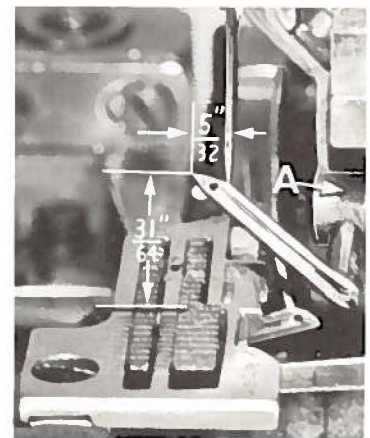

Fig. 10
Next, turn handwheel until looper is at the left end of its travel; check dimensions of upper looper point with respect to needle and throat plate (Fig. 10). If resetting is necessary, do it by moving the upper looper holder (A, Fig. 10). Figure 10 represents the dimensional setting for Styles 39500 FA, FB, GS, JE and JG.
If it becomes necessary to move looper thread pull-off (T), be sure to take up all end play in needle drive shaft before tightening. If upper looper is located so that it is higher over throat plate than recommended in Fig. 10, the purl will tend to form near top edge. If upper looper is too low, the purl will form nearer bottom edge.